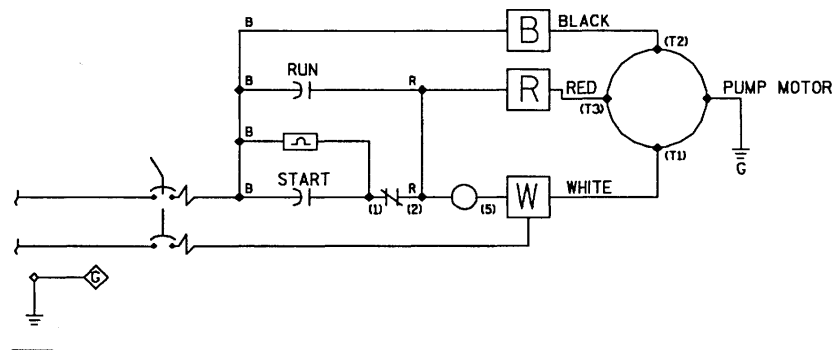
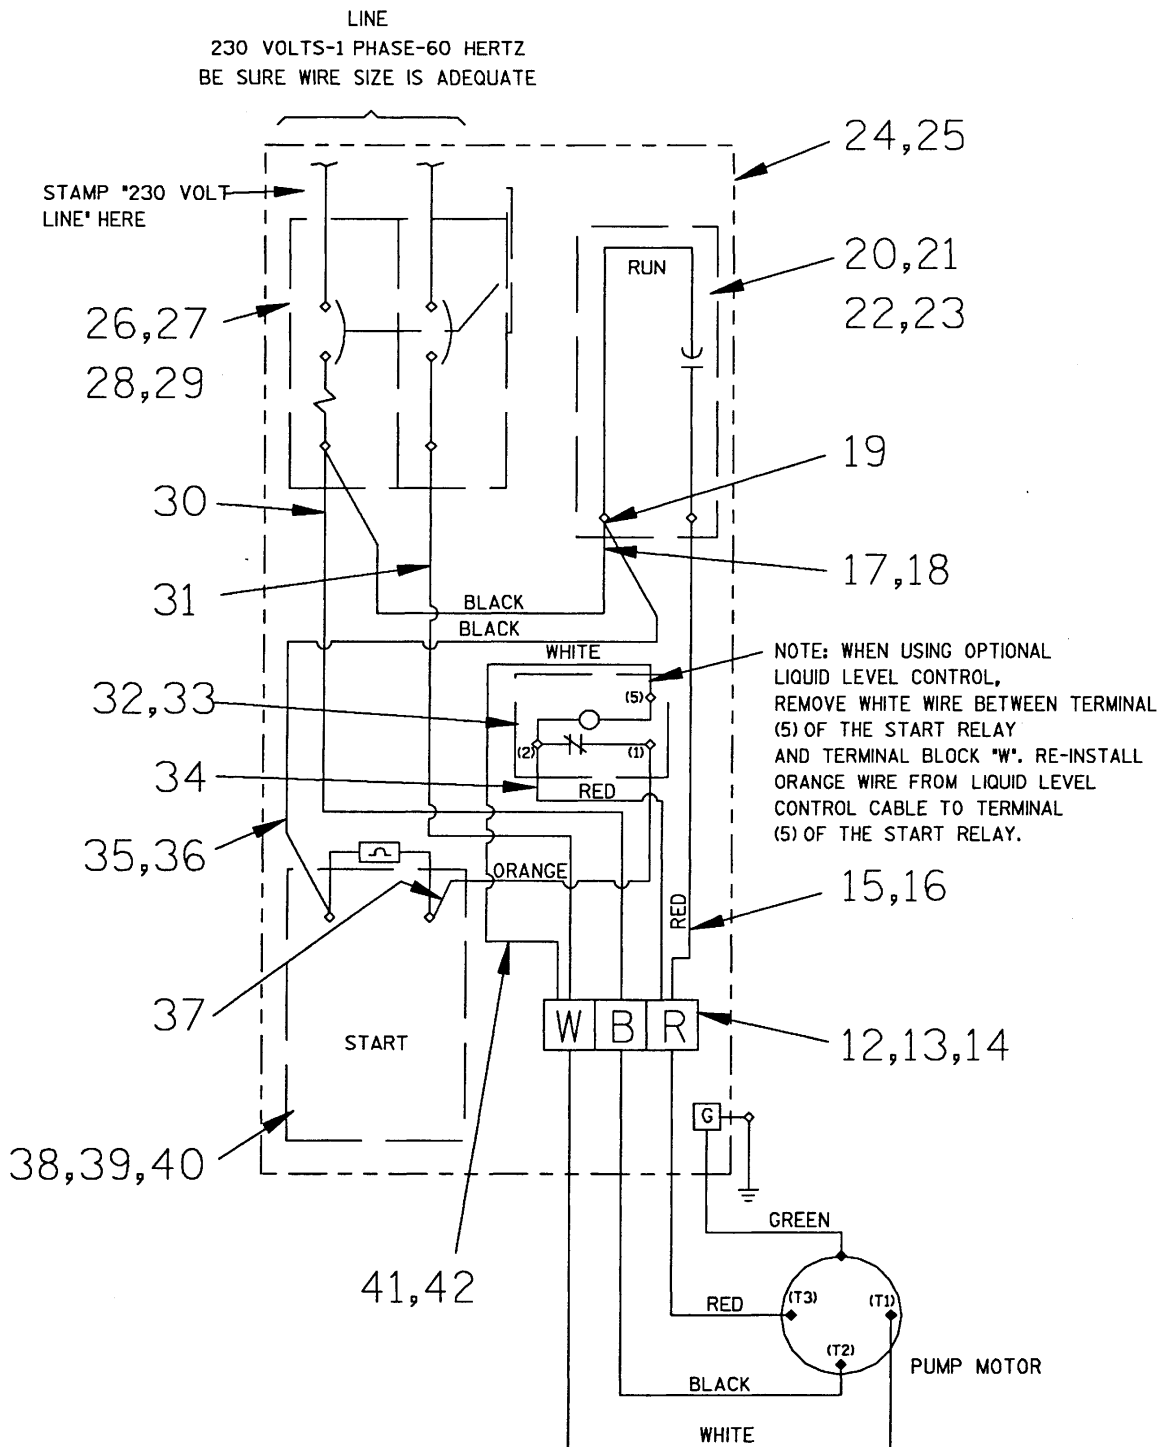

Figure 6. Elementary Wiring Diagram
Figure 8. 47631-131 Control Box Assembly -
- a. Measure the incoming voltage across lines (1 & 2) while the pump is **operating at full capacity**. See Figure 6 on page B-14 or Figure 8 on page B-15.
Connect the pump power cable to the control box as shown in Figure 6 on page B-14 or Figure 8 on page B-15. Use conduit or cable clamps to secure the power and
If liquid level controls are to be installed, connect the motor power cables and level control power cables as shown in Figure 7 and Figure 8 on page B-15.
See Figure 8 on page B-15 for a pictorial wiring diagram and callouts of the control box assembly internal parts.